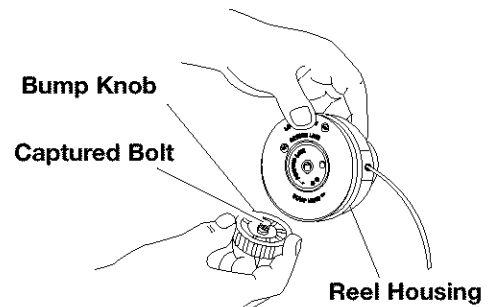

Fig. 19
1. Hold the reel housing with one hand and unscrew the Bump Knob counterclockwise (Fig. 19). Inspect the captured bolt inside the Bump Knob to make sure it moves freely. Replace the Bump Knob if it is damaged.
3. Hold the reel in place and screw the Bump Knob clockwise back onto the reel (see Fig. 19).